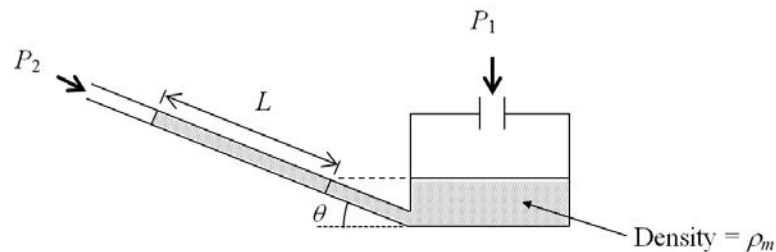

Figure Q5[b]
- [b] Figure Q5[b] shows a well-type of manometer in which the measuring arm is inclined at an angle θ to the horizontal.**